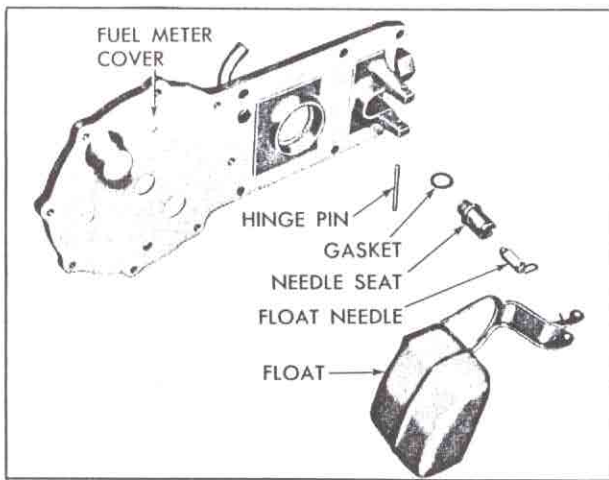

Fig. 143—Float Components—Exploded View
2. Using a new gasket, install needle seat (fig. 143) in fuel meter cover with a wide blade screwdriver. Then hook float needle onto float and install float by inserting hinge pin through mounting bosses.